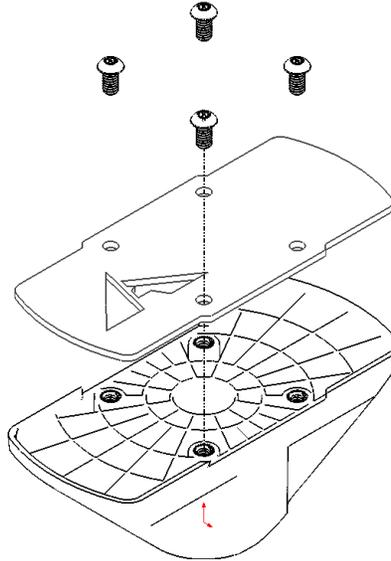

Figure 7: Wheel Wedge, Cover Mounting
- Once everything is securely fastened, bolt the cover to the wheel wedge using the included special bit [70479], and bolts [70478] . Reference Figure 7.